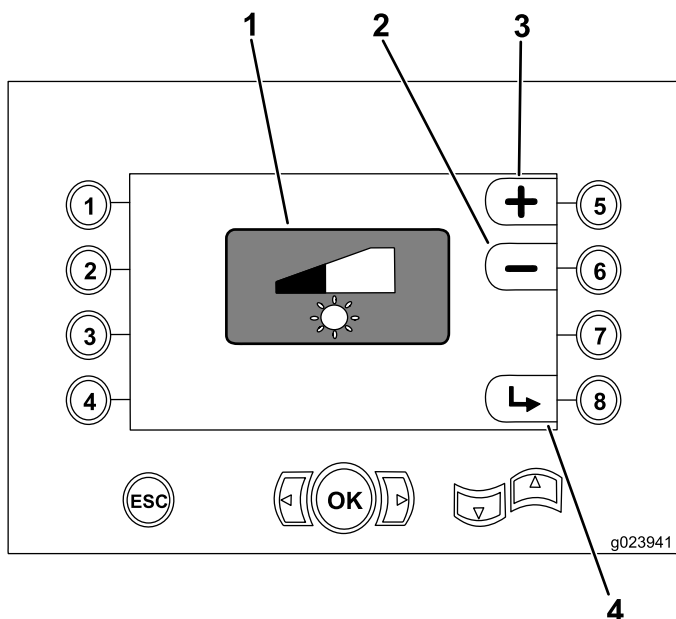

Figure 38
- Button 5—Increase the display brightness (Figure 38)
- Button 6—Decrease the display brightness (Figure 38)